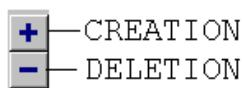

Figure 4 : CREATION-DELETION TOOLBAR
- click on the *creation* button (Figure 4).
- click on the *deletion* button (Figure 4).
Clicking on the hold button or on Hold on the Torsion menu (Figure 4), you enter the Hold management window :
In this window, you can create or delete holds using the *creation* or the *deletion* buttons (Figure 4).
Clicking on the transverse beam button  or on Transverse beam on the Torsion menu (Figure 4), you enter the Transverse beam management window where these inputs are performed:
The *creation* and the *deletion* buttons (Figure 4) allow you to create or delete nodes and plates.
Clicking on the *Longitudinal beam* button or on Longitudinal beam on the Torsion menu (Figure 4), you enter the *Longitudinal beam management window* where these inputs are performed:
The *creation* and the *deletion* buttons (Figure 4) allow you to create or delete Longitudinal beams.
Clicking on the *Loads* button  or on Loads on the Torsion menu (Figure 4), you enter the *Loads management window* where these inputs are performed :
Clicking on the *Torsion results* button  or on *Torsion result* on the *Torsion* menu (Figure 4), you enter the *Torsion result management window*:
Clicking on the *Stresses* button  or on *Stresses* on the *Torsion* menu (Figure 4), you enter the *Stresses management window*: